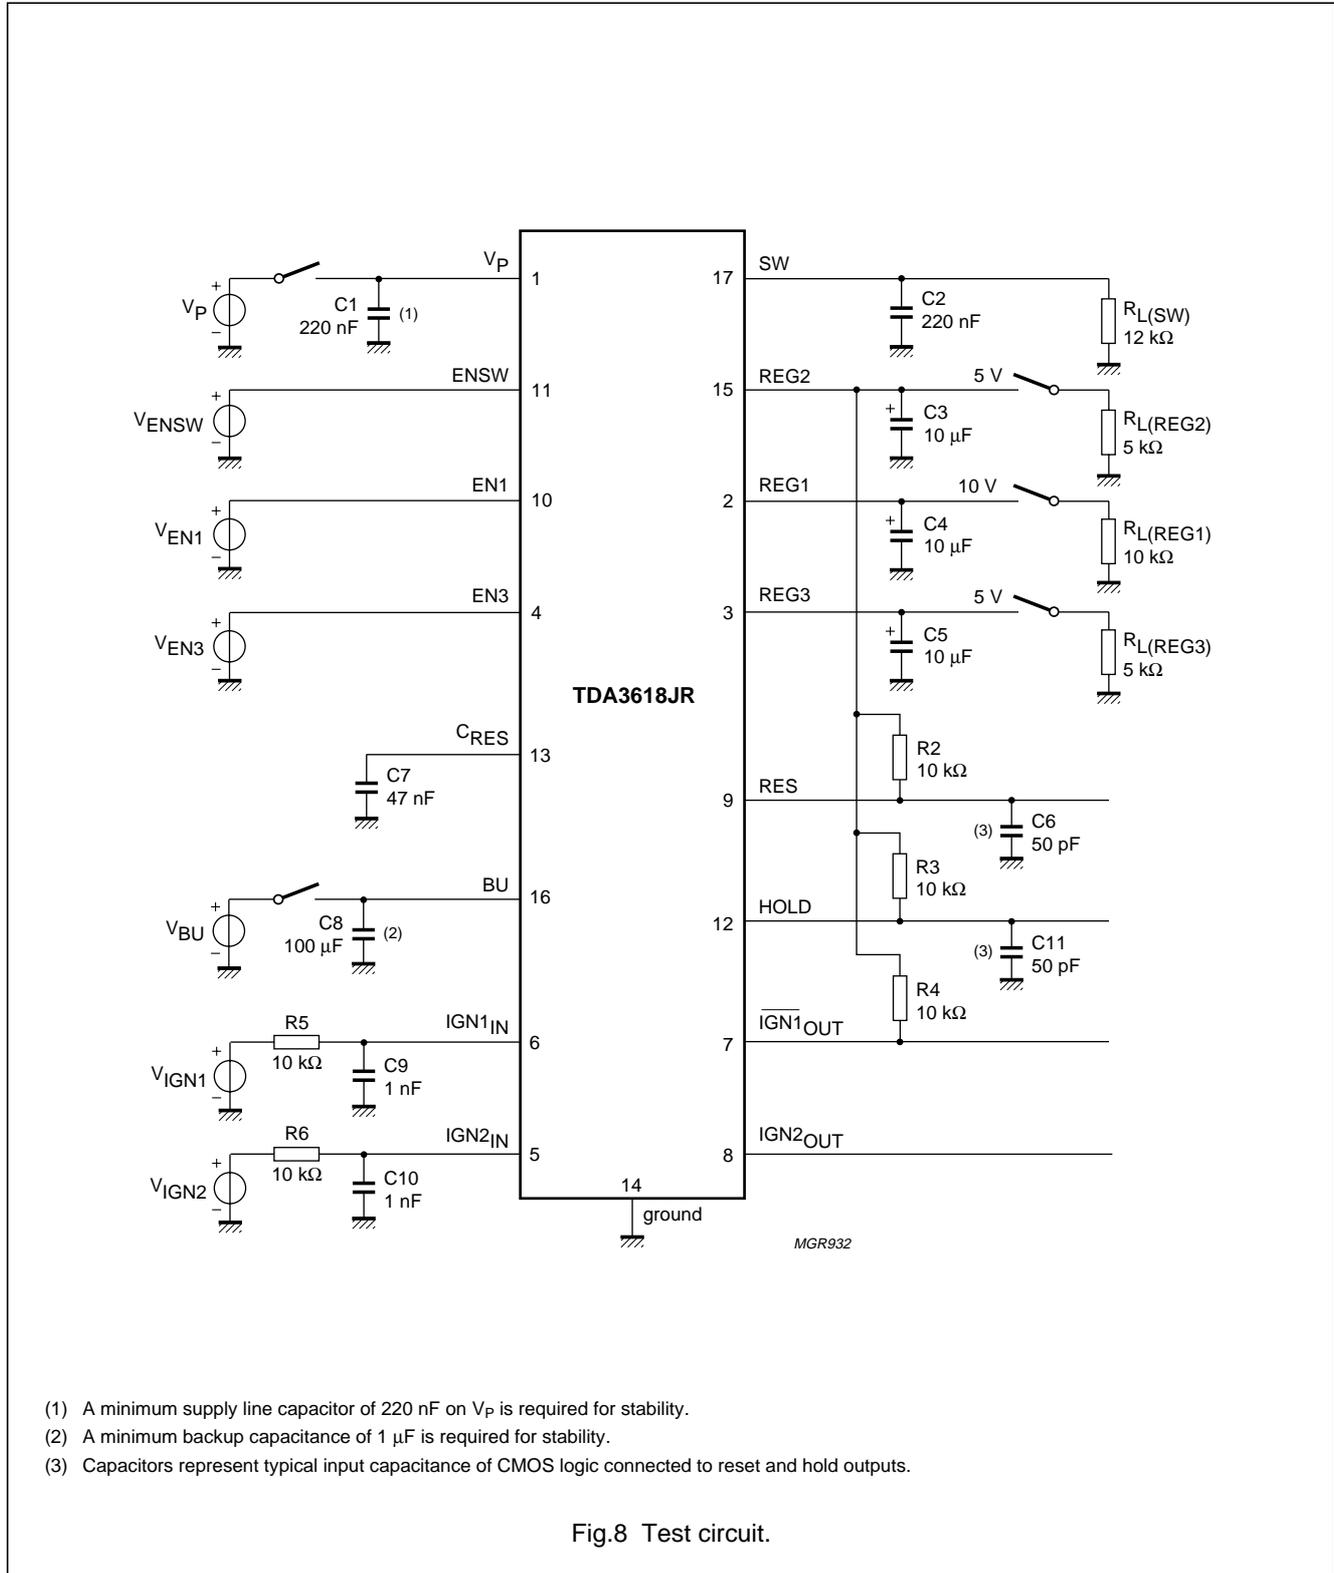

Fig.8 Test circuit.
- The quiescent current is measured in the standby mode with pins EN1, EN2 and ENSW connected to ground and $R_{L(\text{REG2})} = \infty$; (see Fig.8).